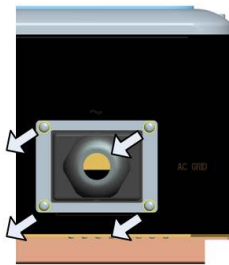

Figure 28 Cable gland
3. Release all four captive screws of the AC output terminal(see fig 28).